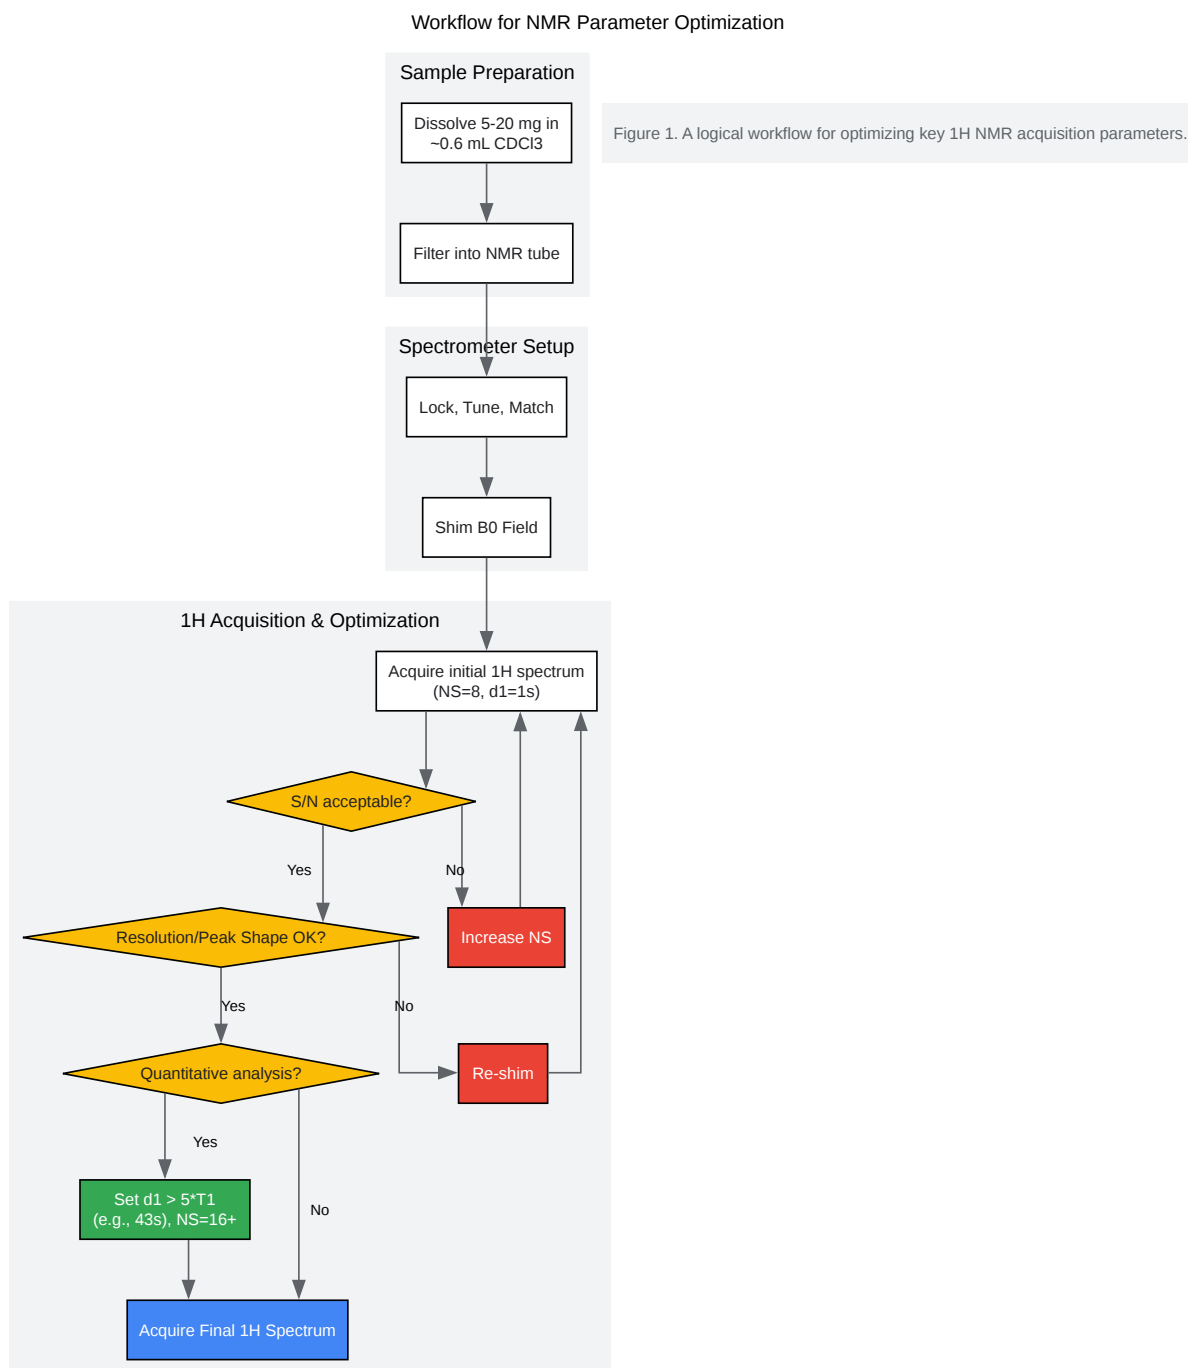

Figure 1. A logical workflow for optimizing key 1H NMR acquisition parameters.
Caption: Figure 1. A logical workflow for optimizing key 1H NMR acquisition parameters.